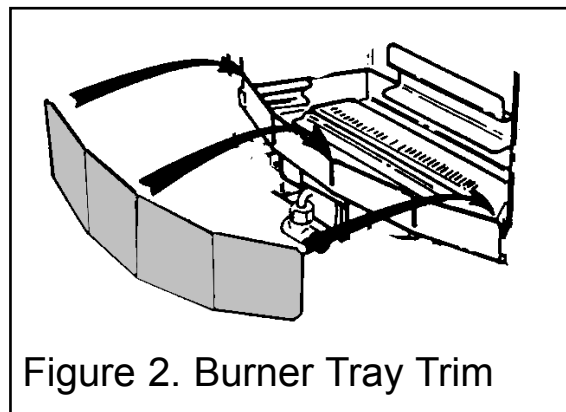

Figure 2. Burner Tray Trim
1. Fit the burner tray trim over the front rim of the burner tray. Push the trim fully down. See figure 2.